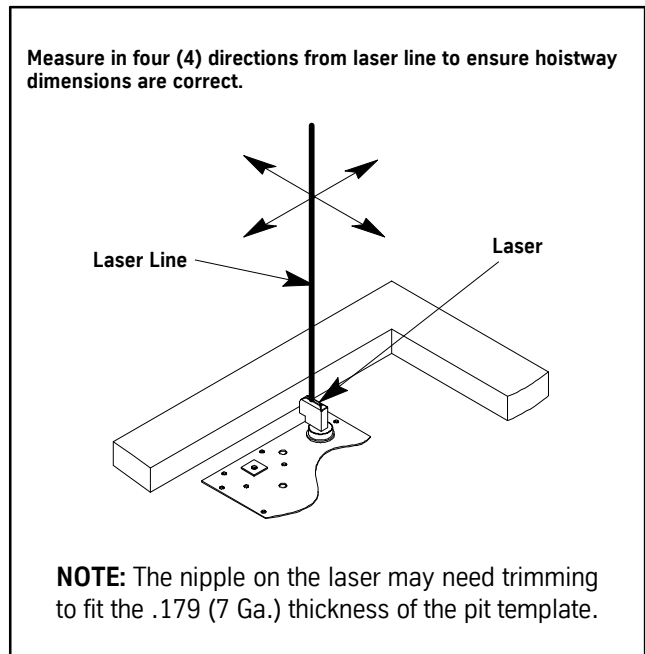
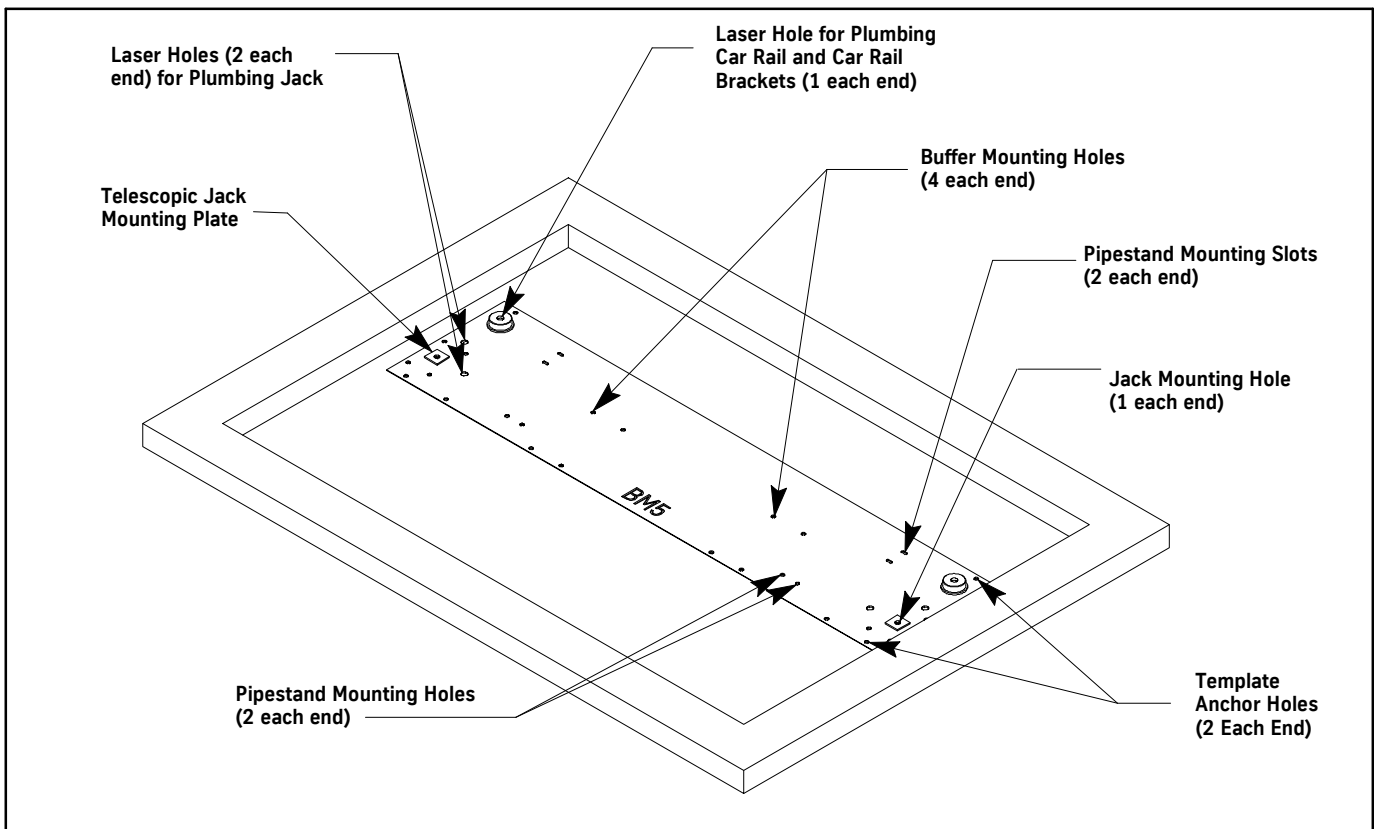
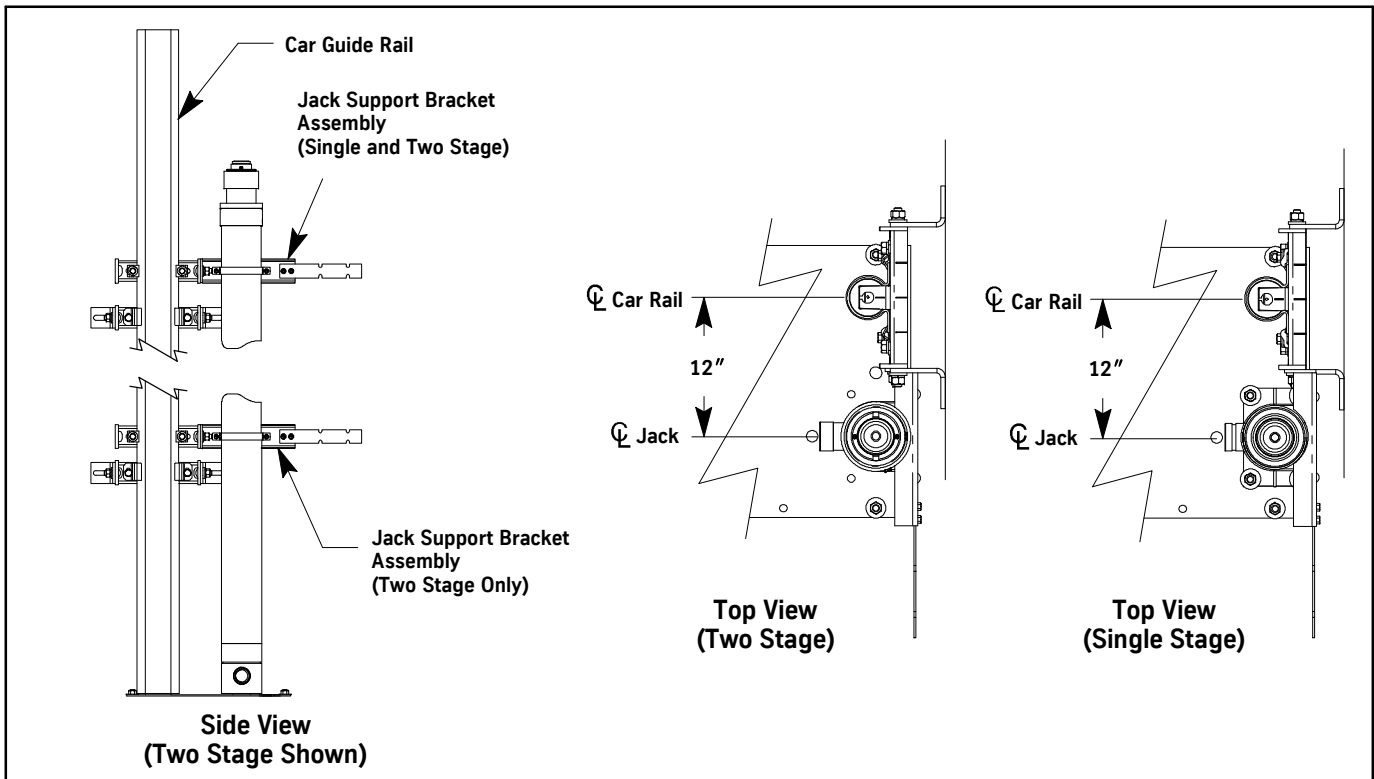
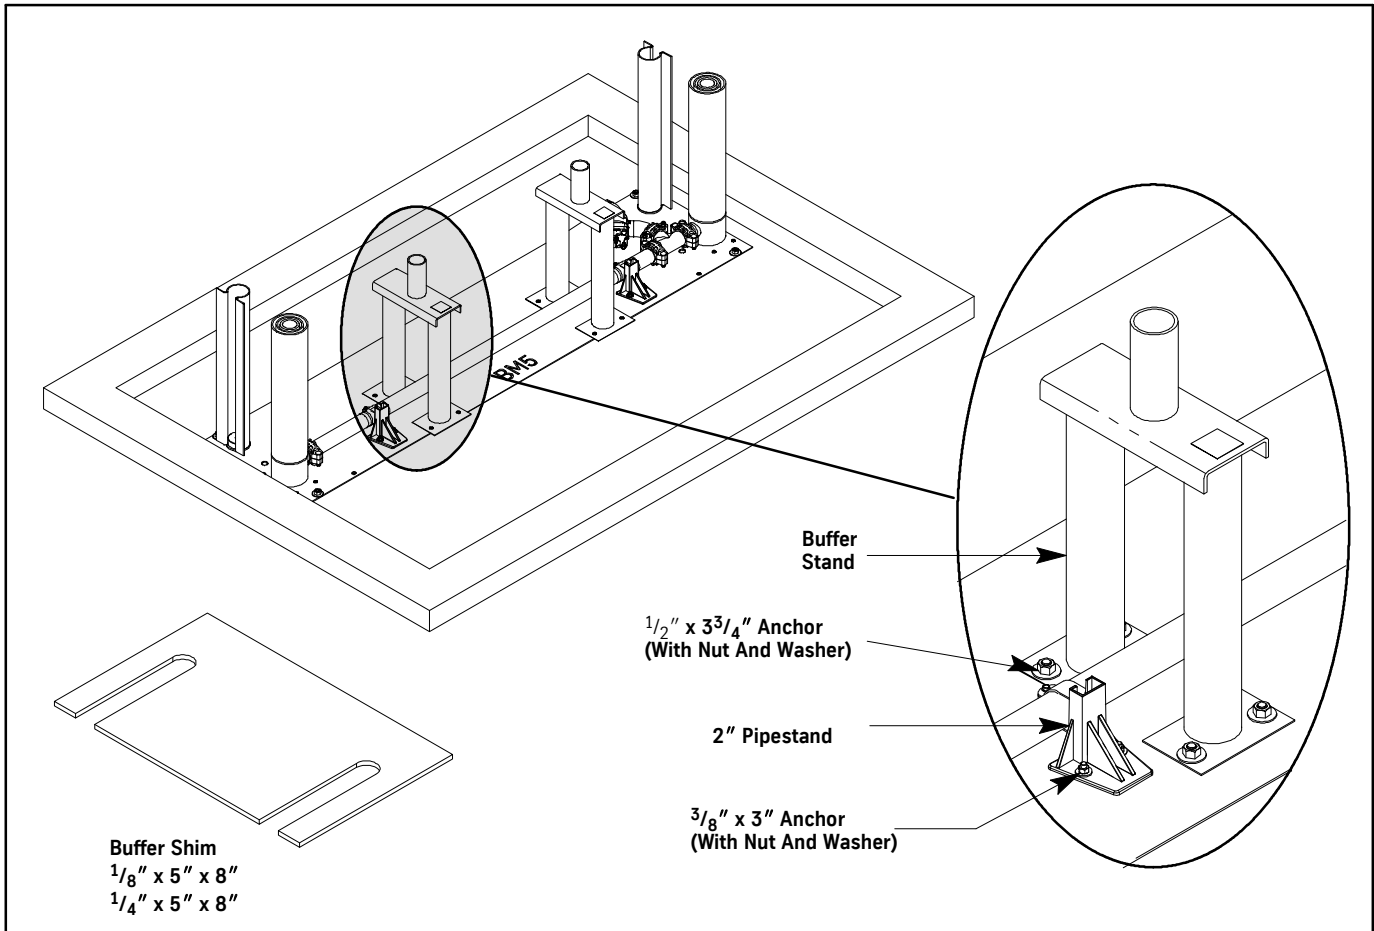

Figure 2 - Hoistway Laser Survey
Figure 3 - Pit Template Legend (AMEE 25, 30, and 35 Shown. AMEE 21, 40, 45, and 50 Similar)
Figure 8
Figure 12 - Buffer and Pipestand Installation
4. Place a laser on each end of the template and survey the hoistway. See Figure 2 and Figure 3.
7. Make sure the pit template is level, then anchor it to the pit floor with a 1/2" concrete anchor in each corner. See Figure 3.
1. Attach the Jack Support Bracket to the car guide rail just below the top of the jack casing. See Figure 8.
3. Hoist the jack into the hoistway and into its hole on the pit template. See Figure 3 and Figure 8, Jack Detail.
4. Loosely attach the Jack Support Bracket to the rail and adjust the jack to the dimension shown in Figure 8.
6. Level and secure the pipe using the supplied pipe stands. See Figure 3 and Figure 12.
1. Install the buffer stands on the pit template. See Figure 12.
4. Anchor the buffer stands with $\frac{1}{2}$ " anchors. Be careful not to drive them too deep (see note below). See Figure 12.
2. Check the bolster assembly for level. If it is not, shim the buffer stand(s). See Figure 12.